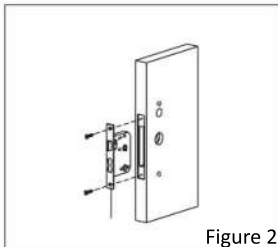

Figure 2
- As shown in Figure 2
- (2) Attach the mortise lock with 2 screws. These are in the small transparent bag; there are 4 pieces of them.